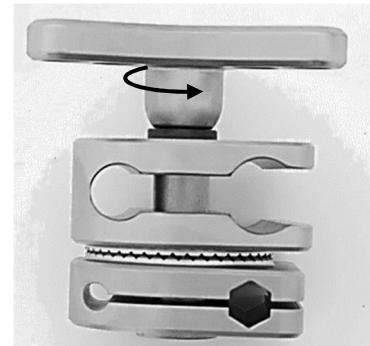

Fig. 20
Turn the star grip (1) counterclockwise until it can be removed (Fig. 20).